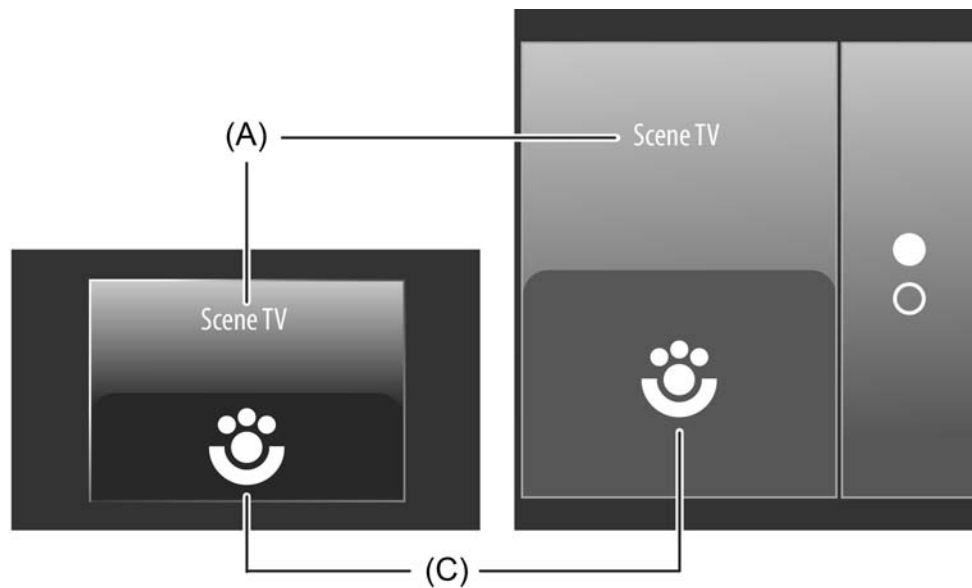

Figure 38: Example of an operating and display element of the channel function "scene extension"
The display area contains different display elements (figure 38) that are influenced by ETS parameters. A name can be assigned to each KNX channel in the ETS (A). This text name is centred in the display element for display whereby controllable KNX functions are identified for the user (e.g. "scene TV").